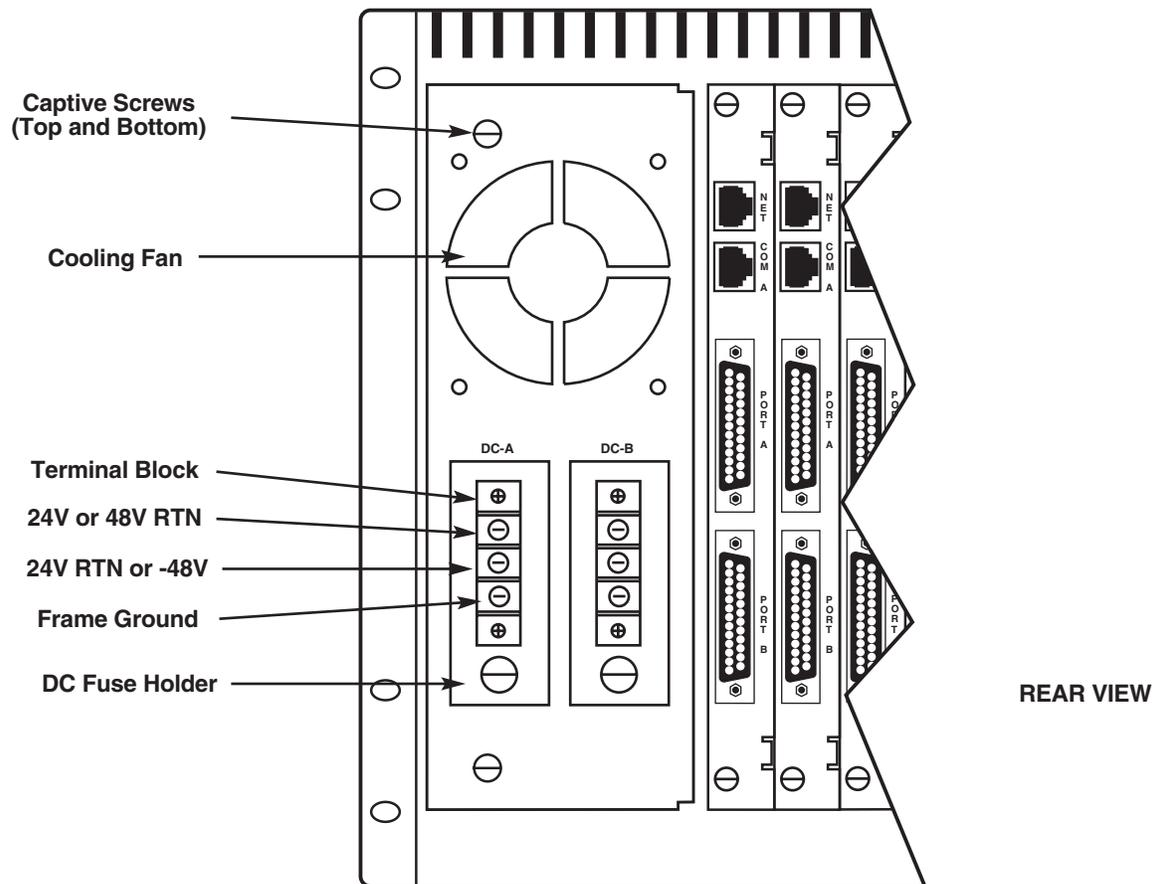

Figure 2-4. DC Power-Connector Module.
- Two power units (DC-A and DC-B). Unit DC-B provides source power to the redundant Power-Supply Module. See Figure 2-4.